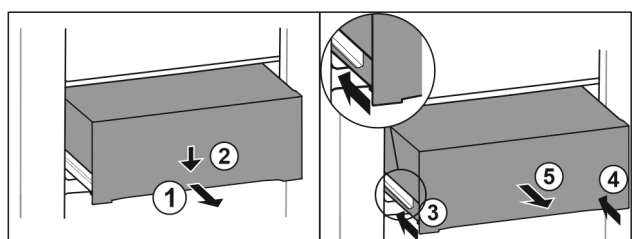

Fig. 78
- ▶ Pull out drawer half-way. *Fig. 78 (1)*
- ▶ Push the drawer down at the front. *Fig. 78 (2)*
- ▶ Push the left rail in by about 2 cm. *Fig. 78 (3)*
- ▶ Push the right rail in by about 2 cm. *Fig. 78 (4)*
- ▶ Remove drawer to the front. *Fig. 78 (5)*